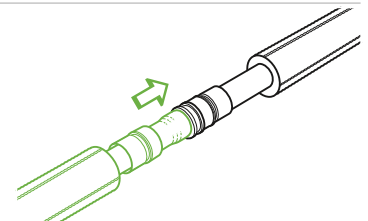

Fig. B10.3.10
13. Insert the inner coupler into the expanded pipe end (Fig. B10.3.10).